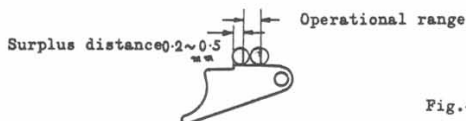

Fig.4-44
- c Disengage the 1st frame stabilizer with tweezers(in actual condition, Duality prevention lever-E91-disengages the stabilizer when the first shutter cocking is completed). Then turn the curtain charge gear(E80) and see whether the D-shaped pin moves within the range shown in Fig.4-44. A surplus distance must be observed at the step.